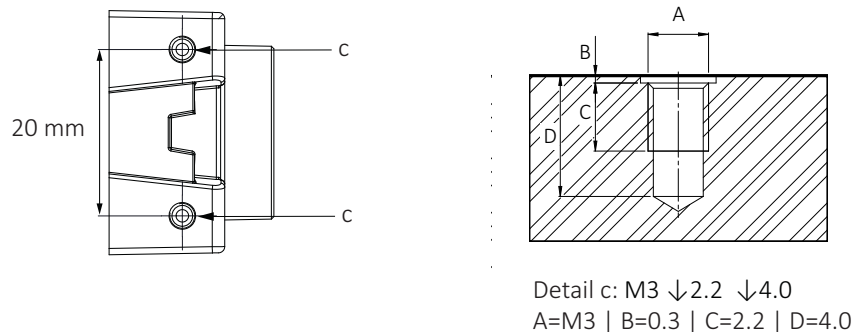

Figure 89: Top and bottom and mounting threads (c)
1. Mount the camera to the base using suitable M3 screws at 0.51 Nm maximum torque for a thread engagement (C) of 2.2 mm between screws and mounting threads, see Figure 89. For technical drawings, see Standard Alvium: Dimensions and mass on page 207.